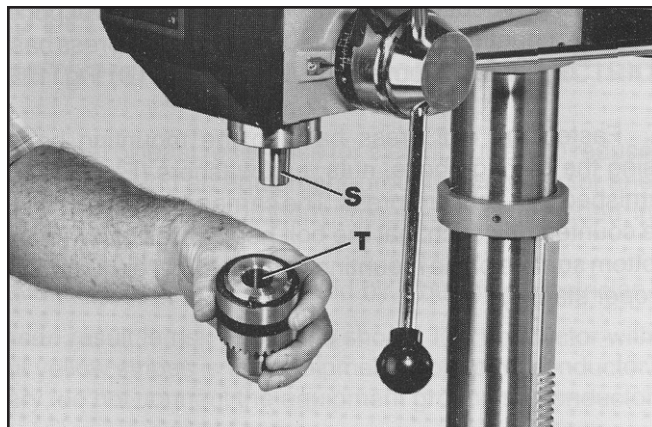

Fig. 11
11. **IMPORTANT:** Make certain the bottom of spindle (S) Fig. 11, and tapered hole (T) in chuck are clean and free of any grease, lacquer or rust preventive coatings. **NOTE:** Household oven cleaner can effectively remove any substance from the spindle and chuck; however, carefully follow the manufacturer's safety rules concerning its use.